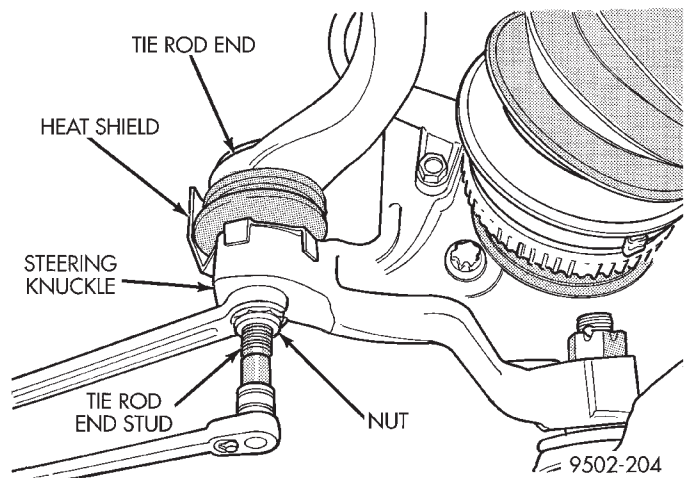

Fig. 7 Removing Tie Rod End Nut
(5) Remove both front wheel and tire assemblies from the vehicle.
(6) Remove nuts attaching both outer tie rod ends to the steering knuckles (Fig. 7). Nuts are to be removed from tie rod ends using the following procedure, hold tie rod end stud with an 11/32 socket, while loosening and removing nut with wrench (Fig. 7).